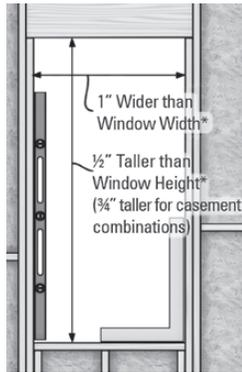

Figure 1
- (Required)** The rough opening should be level, plumb, and square. Dimensionally, it should be ½" taller and 1" wider than the frame dimension of the window or window combination, excluding the nail fins (**Figure 1**). Note that horizontal mulls add 1" to the vertical dimension, and vertical mulls add 1" to the horizontal dimension of the individual units combined.
For Florida Building Code Compliance: The rough opening must have a maximum gap of ¼" on any given side, instead of using the dimensions shown in **Figure 1**. Refer to the FL code for more information.